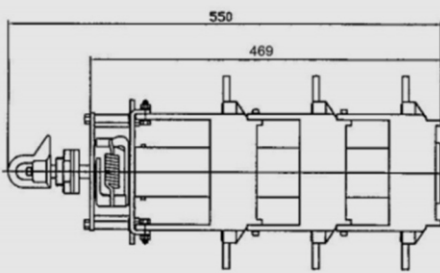

Fig 1
2. Averagely weld 3 lengths of M10X40mm mounting screws on the $\phi 117\text{mm}$ circle centered on the center of the hole center. (Fig 1)